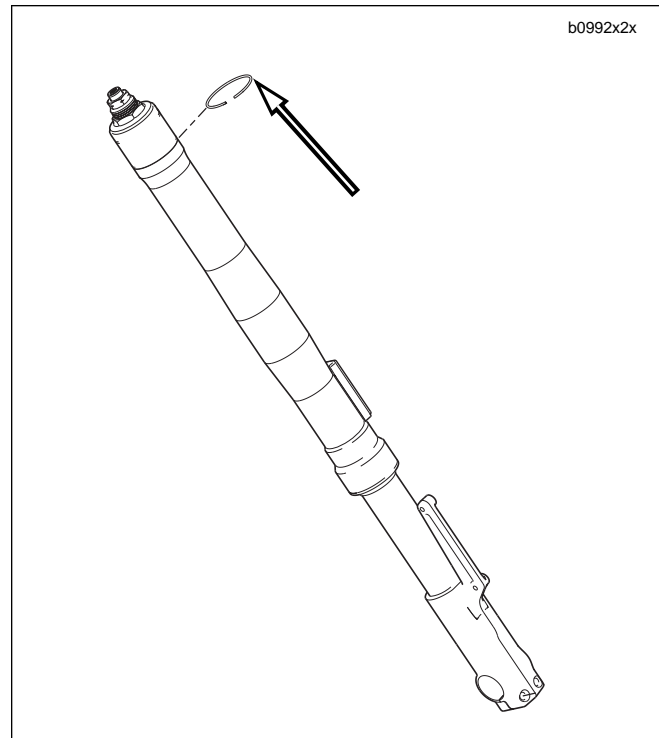

Figure 2-64. Stopper Ring
5. See Figure 2-64. Remove fork from upper fork clamp and slide the stopper ring up and over the top of the fork.